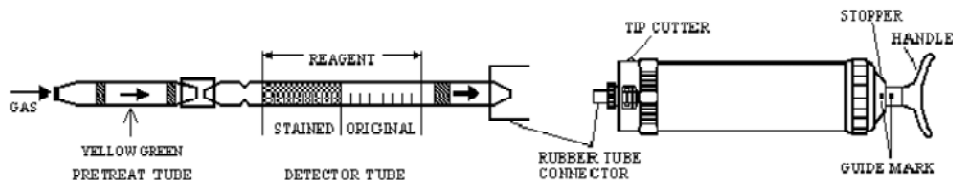

Fig.1
- ① Break both ends of detector tube (I) and pre-treat tube (II) by using the tip cutter, and connect each end of the detector tube (I) and pre-treat tube (II) with rubber tube connector as shown in Fig.1.
- ② Insert the detector tube into aspirating pump securely as shown in Fig.1. (Arrow mark shall point to the pump.)
- ③ Align the guide marks on the shaft and stopper of the aspirating pump.
- ④ Pull the pump handle at full stroke until it locks and wait for 2 minutes or until the completion of sampling is confirmed with the flow indicator of the pump (See descriptions about the flow indicator in the instructions of the pump).
- ⑤ On completion of sampling, read the scale at the maximum point of the stained layer.
- ⑥ When the concentration is below the scale range, 5 pump strokes can be used to determine this lower concentration.